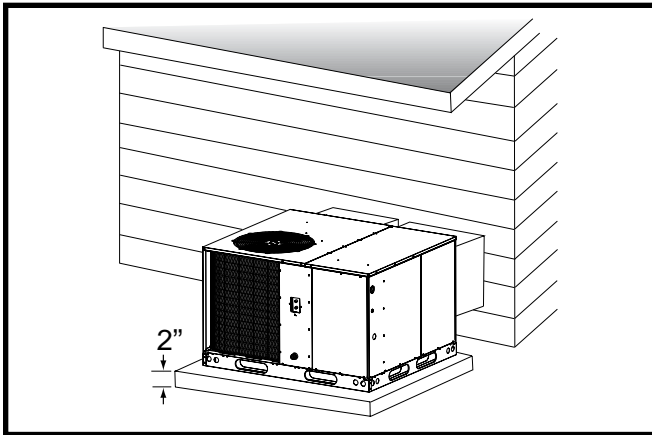

Figure 4. Ground Level Installation
- A suitable mounting pad (Figure 4) must be provided and be separate from the building foundation. The pad must be level to ensure proper condensate disposal and strong enough to support the unit's weight. The slab height must be a minimum of 2" (5cm) above grade and with adequate drainage.